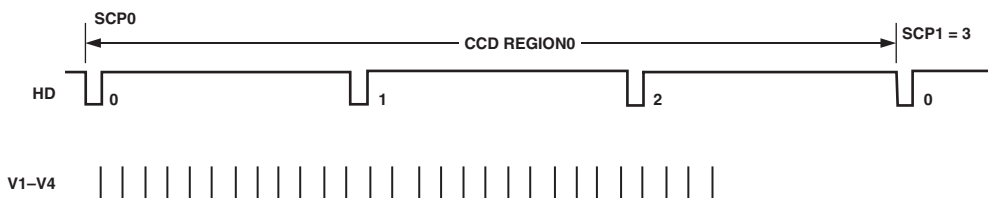

Figure 33. Sweep Mode Timing Example with SVREP_MODE = 1 and SVREP0 = 28
Normally the sequences are contained within one HD line length, but with the sweep mode enabled, the HD boundaries will be ignored until the region is finished. The special vertical sweep mode operation is only output in CCD Region0 and CCD Region3. (See Figures 33 and 34.) The SVREP_MODE register located at control Address 0x0A is used to enable and configure the special sweep mode operation as described in Table XVIII. The maximum number of repeats in each region is 2048 while operating in this mode using the SVREP0 and SVREP3 Mode_Reg(4) registers.